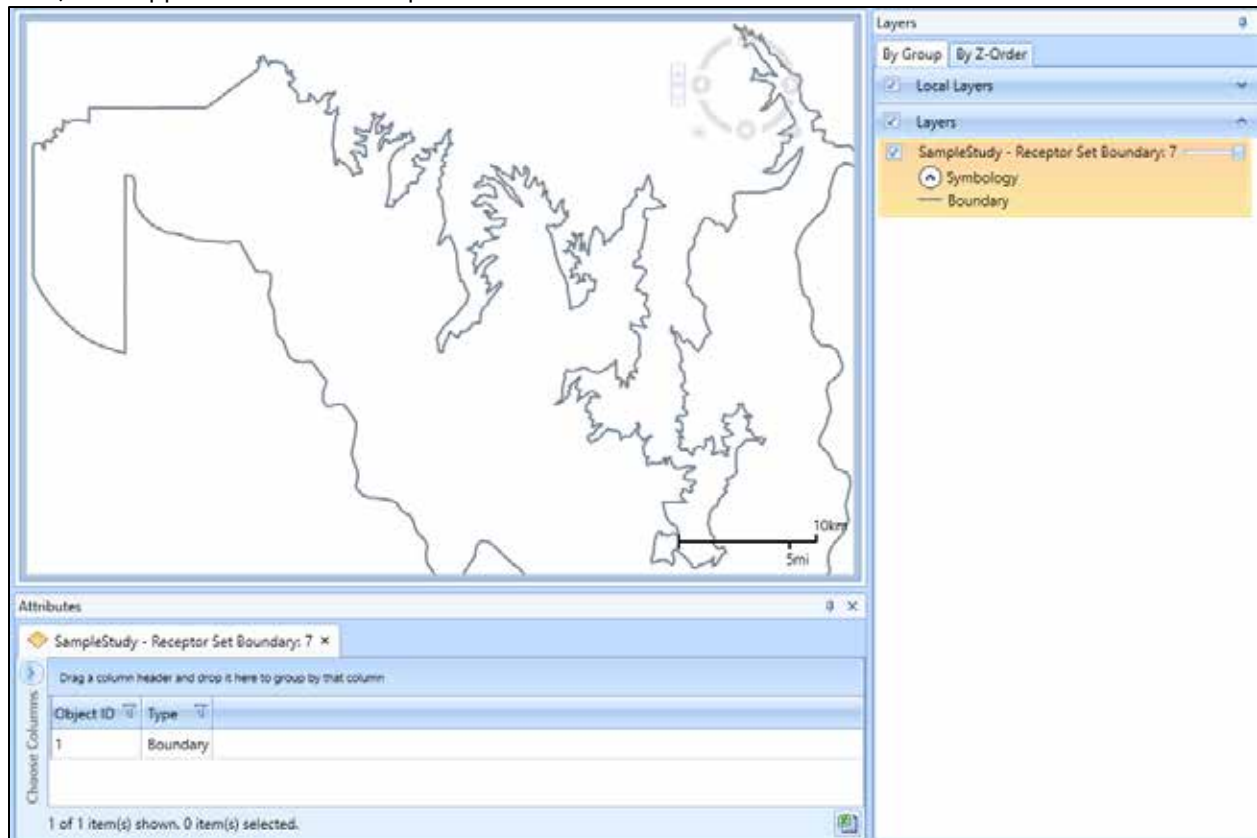

Figure 5-31 Sample Receptor Set Boundary Layer with Attributes
3. The receptor set boundary layer is displayed on the map (Figure 5-31) and in the *Layers* manager.
The following attributes are available for the receptor set boundary layers: Object ID, and Type (Figure 5-31). See Appendix B.3 for descriptions of the attributes.